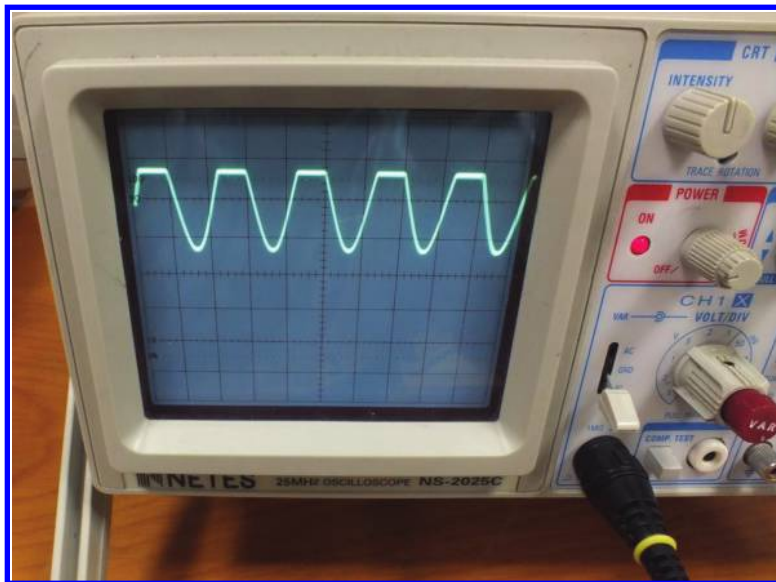

Figure 3.40: The output clipped.
**Note:** For GW INSTEK GFG-8015G, the output voltage could be between  $-13$  and  $+13$  V. If you start to increase the offset, the output will be clipped (Fig. 3.40).